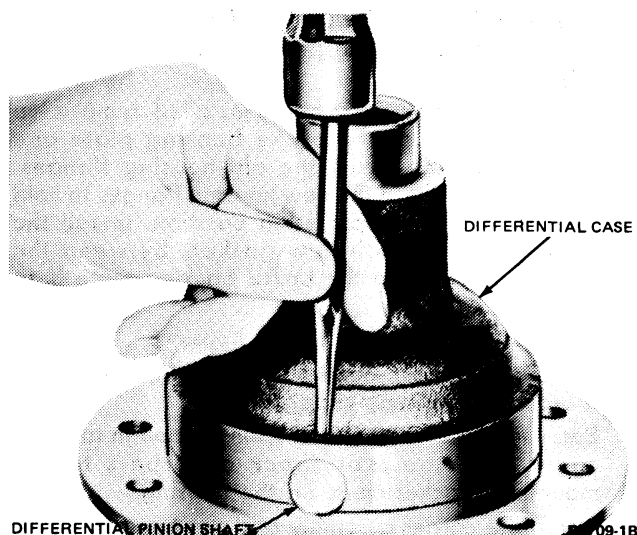

FIG. 22 Removing Differential Pinion Shaft Lock Pin
6. Separate the two-piece differential case, then with a drift, drive out the differential pinion shaft lock pin, (Fig. 22).